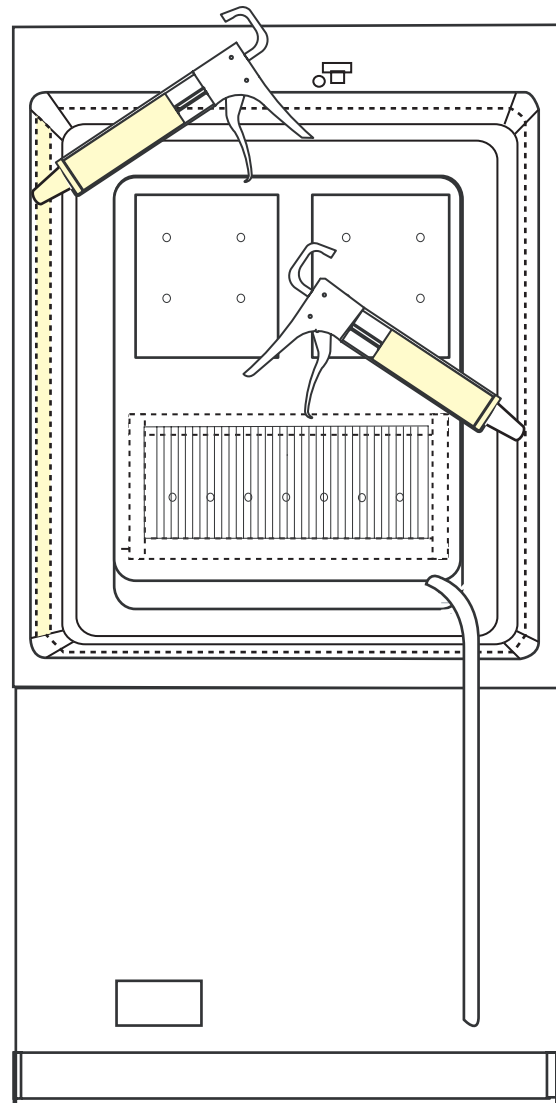

Figure 7.
The sealant must be applied to the cooling unit as outlined in the following steps and shown by Figure 6 and Figure 7.
4. Apply 3/4 inch wide bead of sealant to the around the upper side of the cabinet step. See Figure 7, page 5.